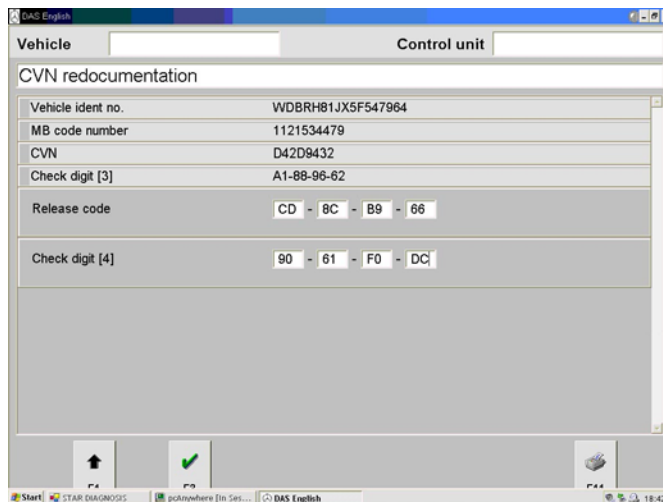

Figure 18
9. Enter the Release Code and Check Digit [4] for the respective VIN, Press 'F3' (Figure 18)